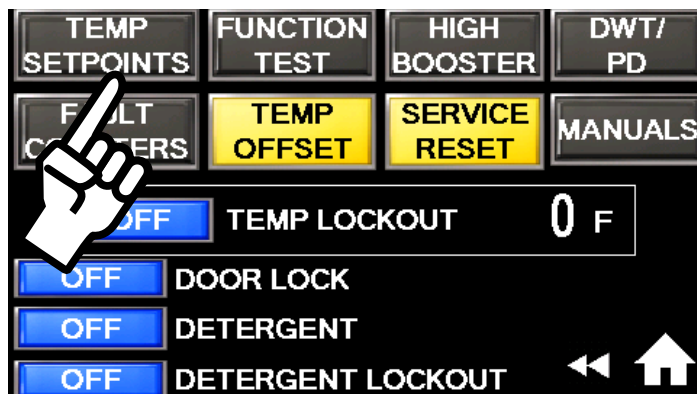

Fig. 92 - Maintenance menu
1. Press the TEMP SETPOINTS button, (Fig. 92).